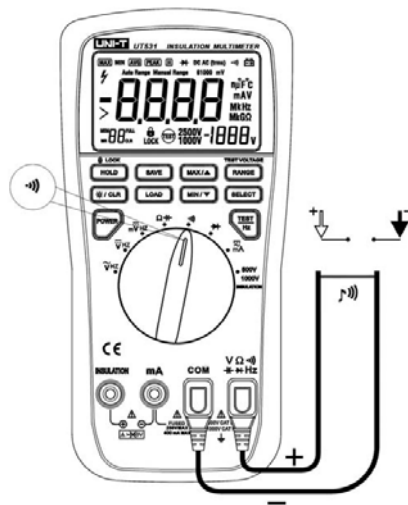

Figure 10. Testing for Continuity
*Testing for Continuity* (see figure 10)